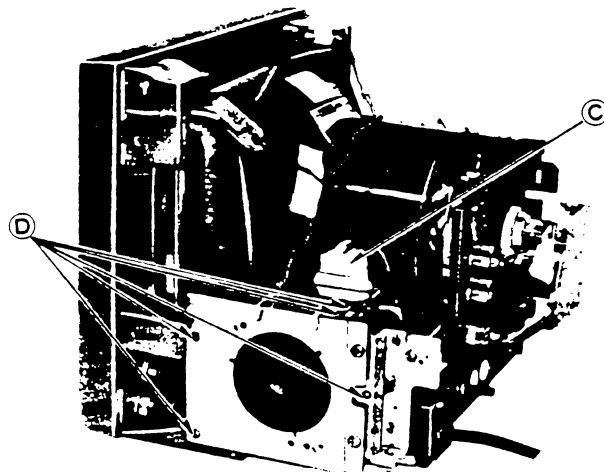

Figure 4
1. Disconnect a coupler (C) and remove 5 (D) screws shown in figure 4.